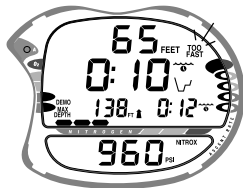

Fig. 84 - Ascent set for 3 fps
- To set the Rate at **3 fps** (Too Fast), press and hold the Advance (Front) button for 2 seconds. The red segment of the VARI will appear together with the graphic **TOO FAST** (Fig. 84). The Alarm will sound and the red LED will flash.